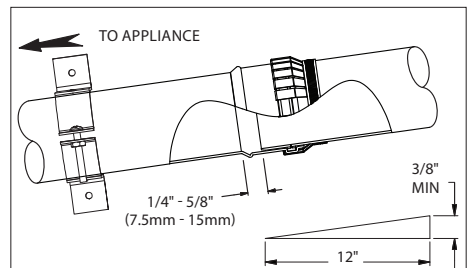

Figure 7
Refer to the appliance manufacturer's installation instructions for requirements of condensate drainage. Ensure proper system slope for drainage. **(Fig.7 and 20)**
3. **The slope of the vent pipe must be at least 1.8° (3/8" rise per ft run, 31mm per meter) back to the appliance.** Ensure there are no dips in the system where condensate can collect. (**Fig.7**)
PP Pipe sections must be disengaged 1/4"-5/8" per joint (to allow for expansion) and sloped 1.8°(3/8"per ft) back to the appliance per Fig.7 for proper condensate flow.